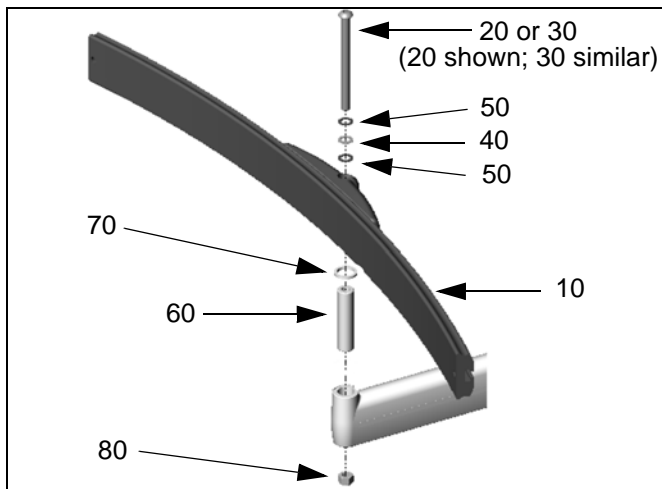

Figure 14: Assemble Array
2. Install pin (60) and spacer (70) into upper mount arm bore (See Figure 14).
3. Install array (10) onto pin (60) (See Figure 14).
4. Insert and hold nut (80) into lower mount arm bore (See Figure 14).
5. Insert screw (20 or 30, as applicable) through washer (50), washer (40), washer (50), array (10), array/mount arm assembly, and into nut (80) (See Figure 14). Tighten screw as required using 3/16" hex key.